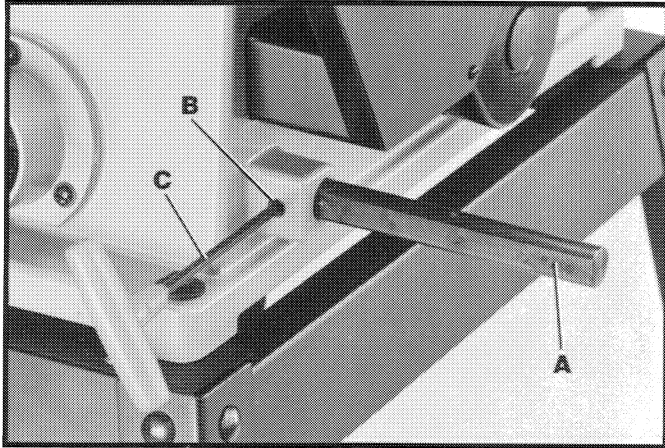

Fig. 14
1. Insert support rod (A) Fig. 14, into hole in side of sander until rod (A) extends approximately 5-1/2" out from the machine. Align flat on rod (A) with screw (B) and tighten screw with hex wrench (C) supplied to hold rod in position.